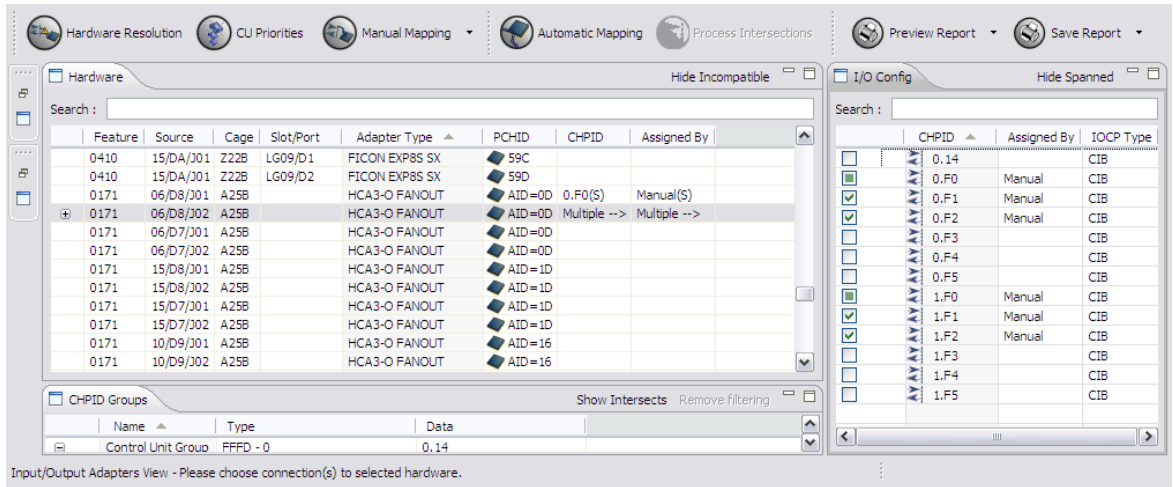

Figure 124. Hardware pane displays "Multiple" in Assigned By column
- The value in the CHPID and Assigned By columns is Multiple (rather than Manual). Figure 124 on page 97 shows Multiple in these columns.